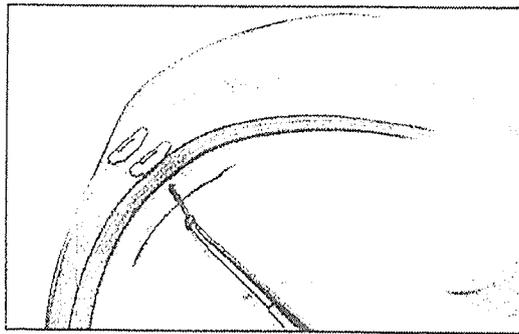

Figure 11. Suture cutting
9. Rest the tip against the knot to allow for a 2-3 mm suture tail. Cut the suture by sliding the gold trigger forward (Photos 12 and 13, Figure 11). Alternatively, trim the suture with arthroscopic scissors.